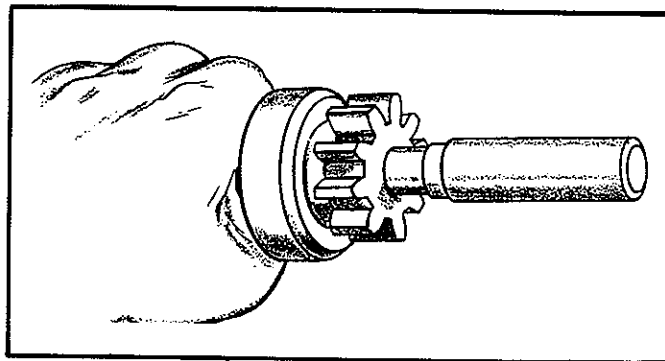

FIGURE 18-12. REMOVAL OF RING
6. On solenoid shift models, remove the ring after driving the pinion stopper toward the pinion gear using a cylindrical tool (Figure 18-12). Remove the overrunning clutch and the pinion stopper at the same time.